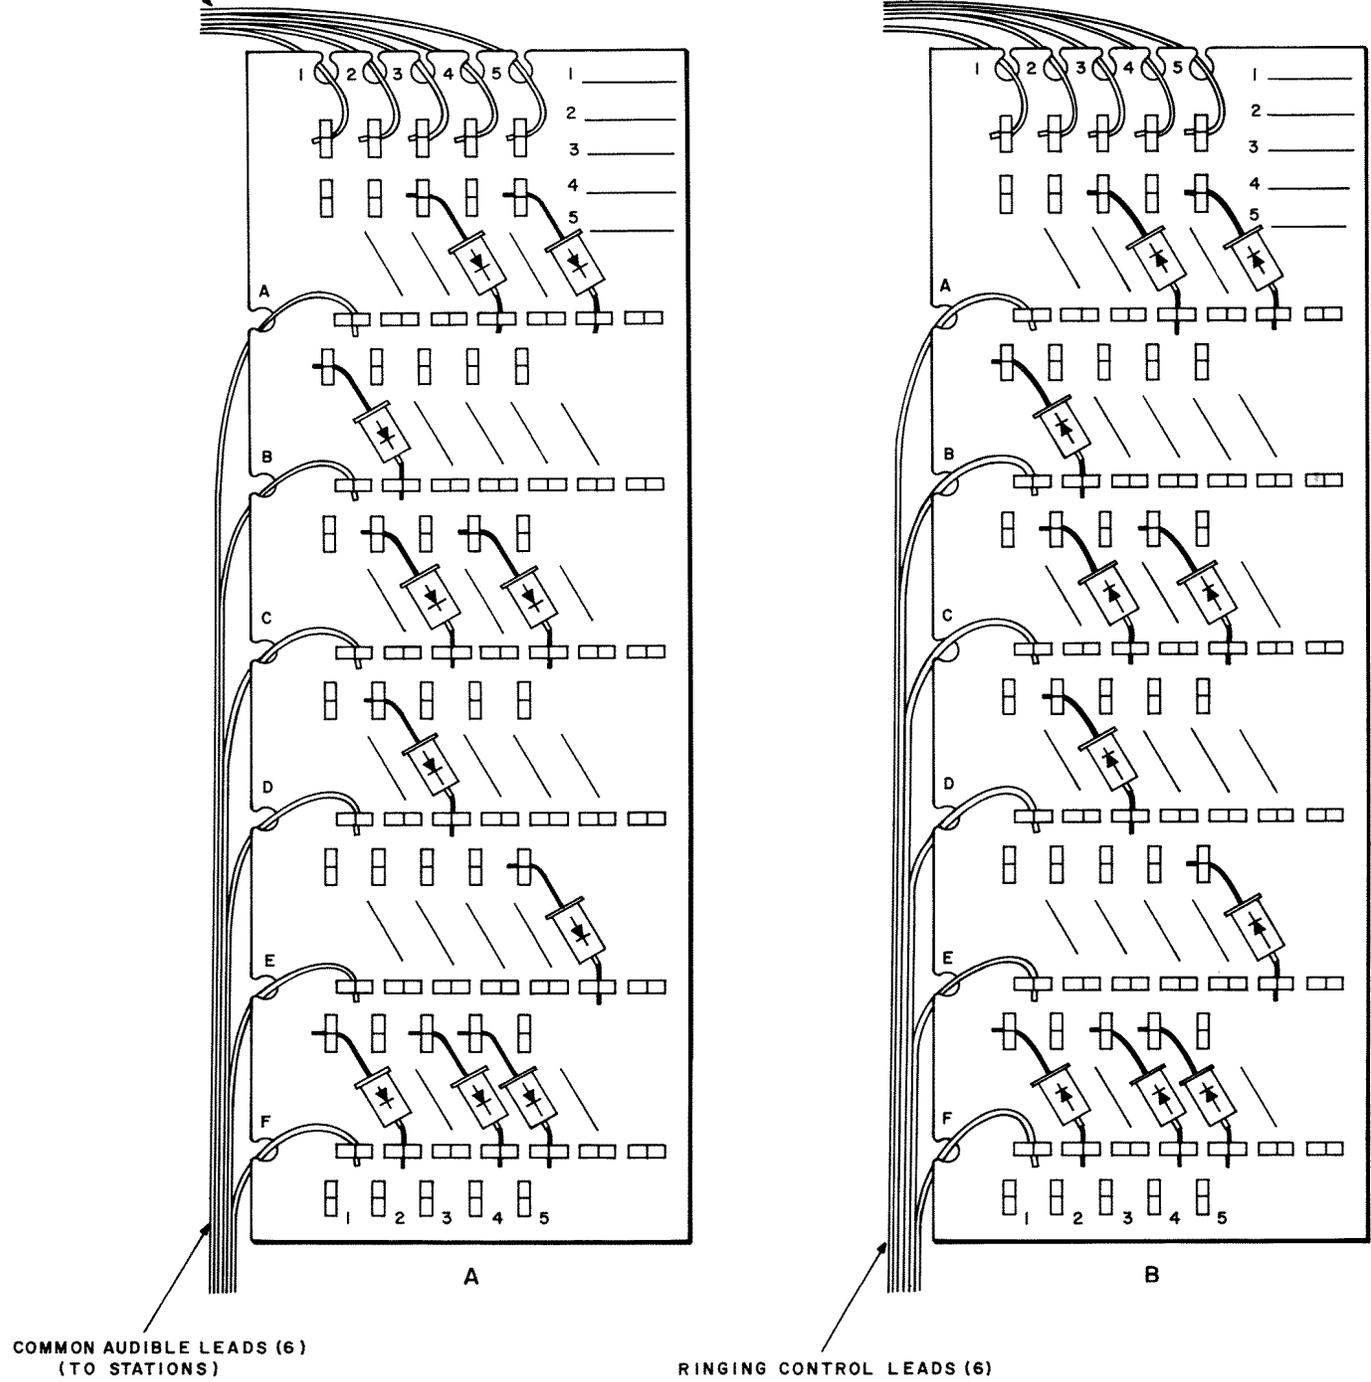

Fig. 8 — Wiring Arrangement and Diode Orientation
3.02 The arrangement of the wiring and positioning of the diodes on the block are further amplified in Fig. 8. Installations can be of either polarity; but no block can have a mixture of both. Fig. 8 A, for instance, shows the ringing control (RC) leads from the line circuits connected at the top, with the common audible (CA) leads associated with the station ringers connected at the side. The diode should always be pointed (diode symbol apex) toward the station ringer — in this case, all diode arrows pointed downward.